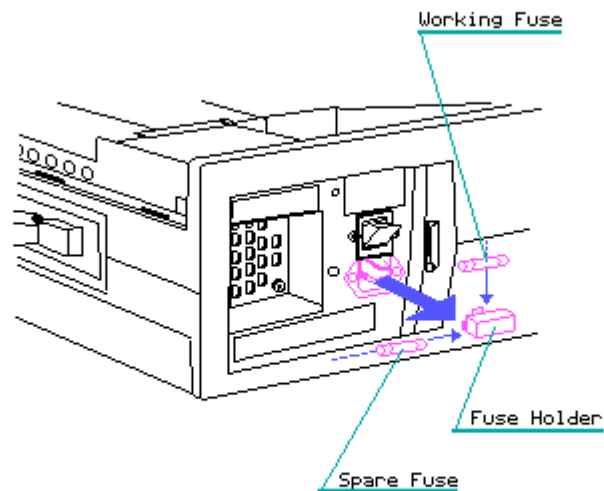

Figure 7.8-3. Removing the COMPAQ Portable Power Fuse
3. Once the fuse box is out, you will see a spare fuse in a holding area in the fuse box (Figure 7.8-3). Lift out the defective fuse and replace it with the spare fuse.